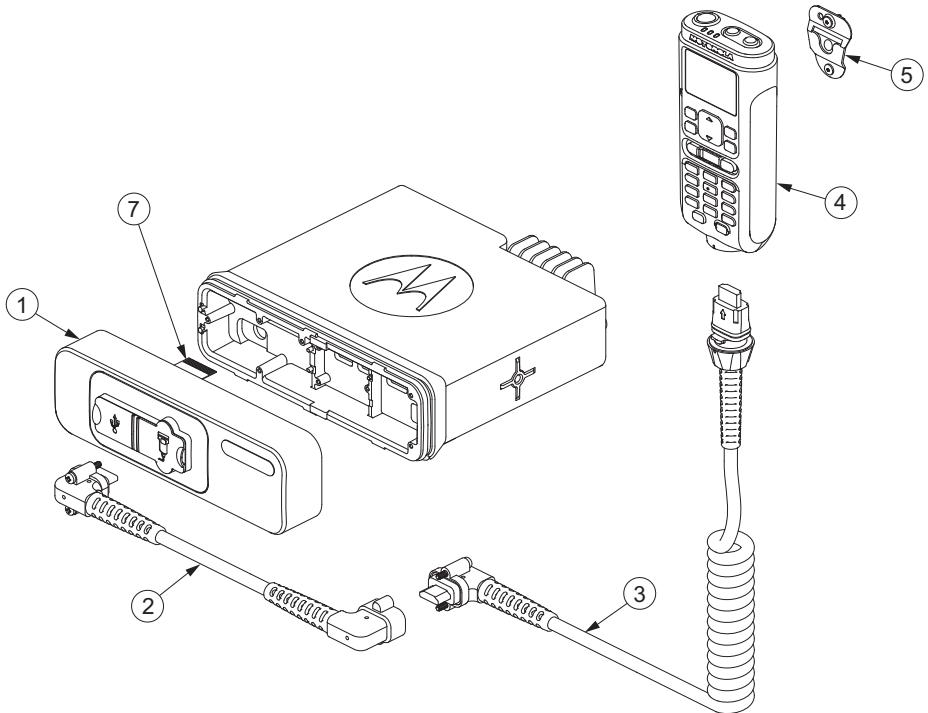

Figure 3. Handheld Control Head Assembly
1. Verify that the flex cable is fully seated in the connector on the handheld control head transceiver adapter. (See Figure 3.)
2. Assemble the flex cable to the flex connector in the radio assembly, making sure it is fully seated. (See Figure 3.)
1. Connect the cable to the transceiver adapter and tighten the two screws clockwise to 1.9–2.1 lbs-in by using a No. 2 Phillips screwdriver. (See Figure 3.)
2. Connect the other end of the cable to the handheld control head and lock the cable by turning the collar clockwise. (See Figure 3.)